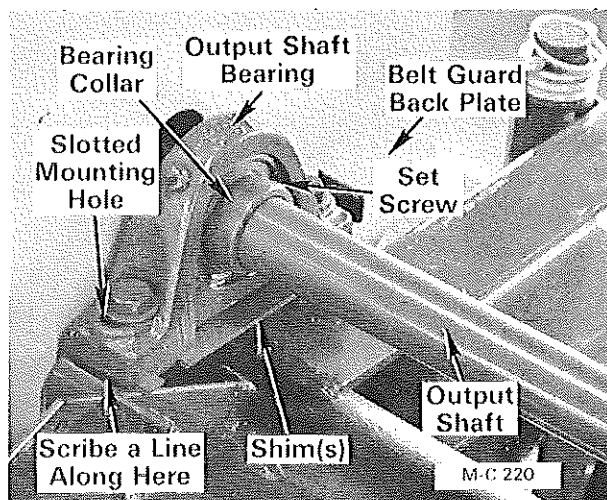
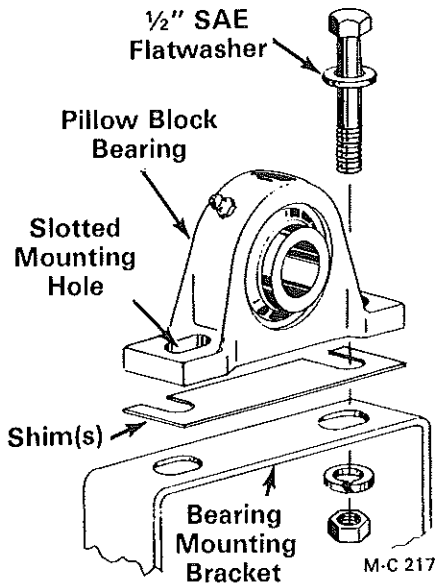

Figure 29
Figure 30
5. Scribe a line on the output shaft bearing mounting bracket as shown in Figure 29 to establish the location of the new bearing when reassembling.
6. Remove the set screw in the bearing collar, two capscrews, lockwashers and hex-nuts securing the output shaft bearing. Lift up on the output shaft and remove the shim(s) from under the output shaft bearing, see Figure 30.
9. Lift up on the output shaft and place the shim(s) on the output shaft bearing mounting bracket, see Figure 30. Install the capscrew, SAE flatwasher, lockwasher and hex-nut. Align the edge of the output shaft bearing with the mark scribed on the mounting bracket made in step 5, see Figure 29. Tighten the output shaft bearing capscrews and set screw in the bearing collar.